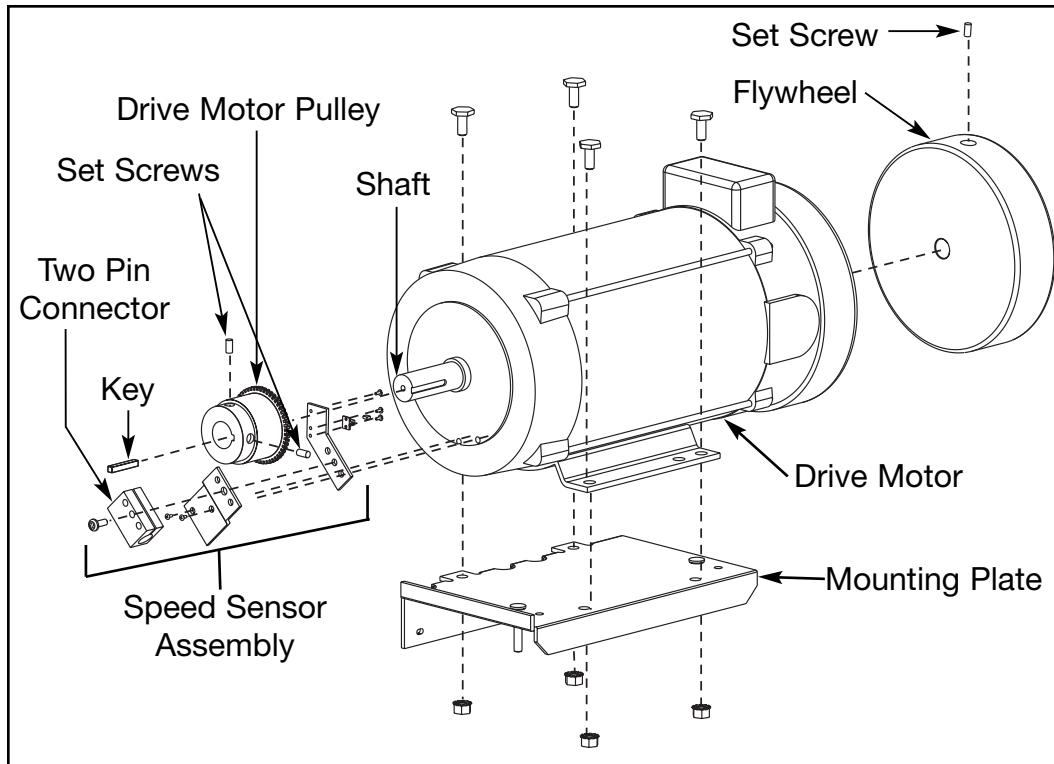

Figure 9
- B.** Disconnect the speed sensor cable by unplugging the cable from the two pin connector on the speed sensor. See Figure 9.
- A.** Loosen the set screw that holds the flywheel in place. Remove the flywheel and install it on the new motor. See Figure 9. **NOTE:** Flywheels can be difficult to remove. You may need to use a gear puller.
- C.** Remove the two Phillips head screws that hold the speed sensor bracket on to the side of the motor. Transfer the speed sensor assembly to the new motor and install it in the same orientation. See Figure 9. See *Speed Sensor Adjustment* in the Troubleshooting chapter for gap information if necessary.
- B. Loosen the set screw that holds the flywheel in place and remove the flywheel. See Figure 9. **NOTE:** *Flywheels can be difficult to remove. You may need to use a gear puller.*